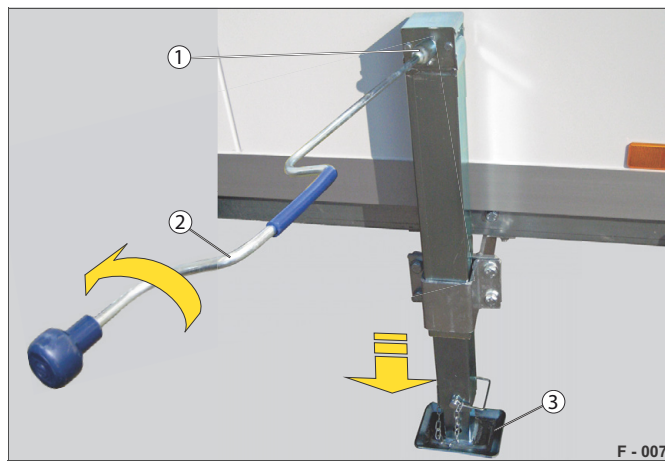

Fig. 30 Crank down the telescopic crank support
- Insert the crank handle (Fig. 30 /2) into the crank base (Fig. 30 /1).
- Wind until the adjustable support (Fig. 30 /3) reaches the ground.